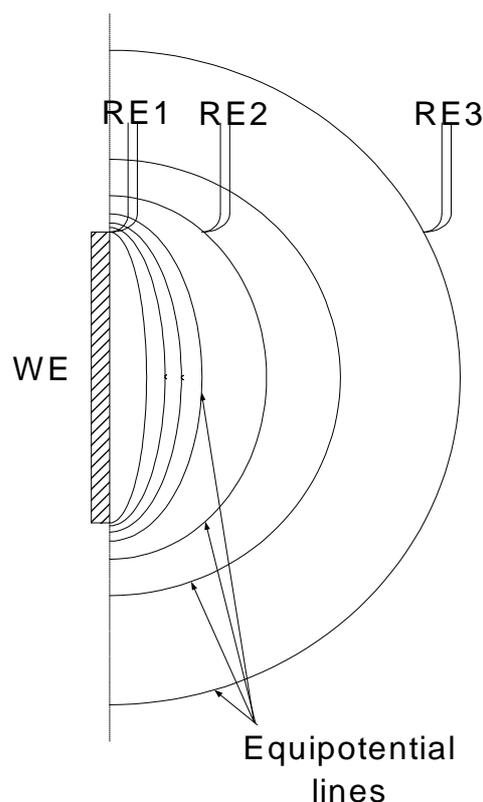

Figure 1 – Equipotential lines shown at close proximity to the working electrode
Consider the potential profile, shown in Figure 1, in the solution between working electrode (WE) and counter electrode.